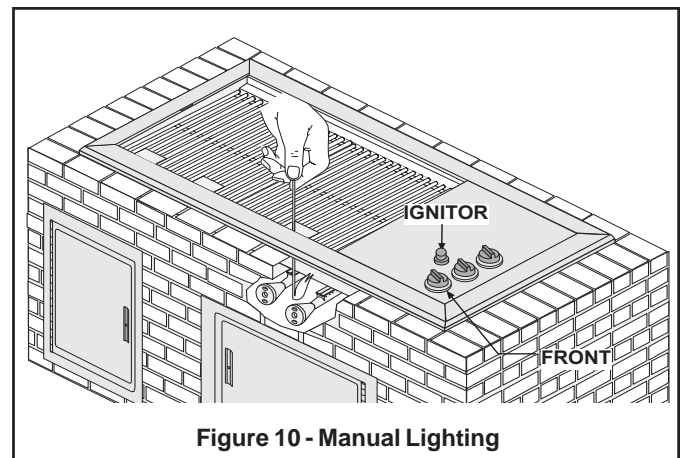

Figure 10 - Manual Lighting
6. Depress either the RIGHT (front) gas valve knob or the BACKBURNER (rear) knob and turn to "HIGH" then immediately PUSH THE IGNITOR BUTTON and hold down for several seconds. (Figure 10). The burner should light.
2. Insert either a burning long-barrel butane lighter, a burning long-stem match or a burning match held by a wire extension holder (Figure 9) through the Grill to the right burner below the flavor grid (Figure 10), or touching the perforated grid in front of the backburner.
**REMEMBER:** FOR SAFE MANUAL LIGHTING, PLACE A BURNING MATCH OR BUTANE LIGHTER BESIDE THE BURNER - THEN TURN ON THE GAS (Figure 10).